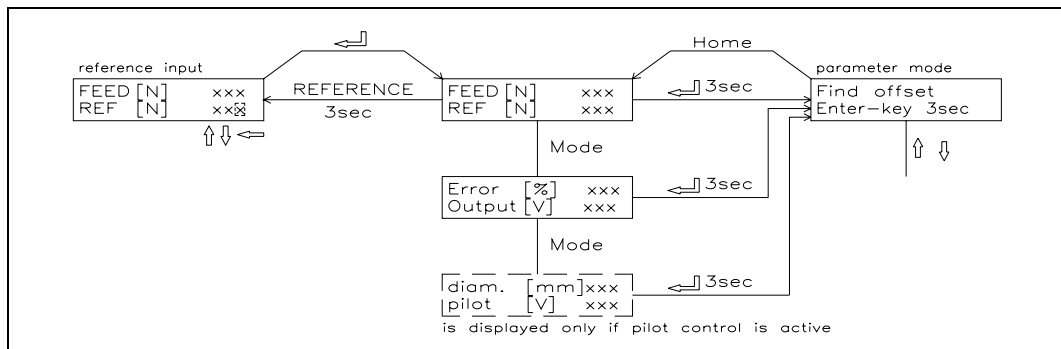

fig. 12
- Press „REFERENCE“ key in the main operating menu for 3 seconds (refer to fig. 12). Input new reference value using the keyboard. Quit change mode and save the new reference in the EEPROM by using the ↵ key. (If change mode is quit by using „HOME“ key, the new reference is taken only into RAM and will be lost while power-off or changing a parameter.)